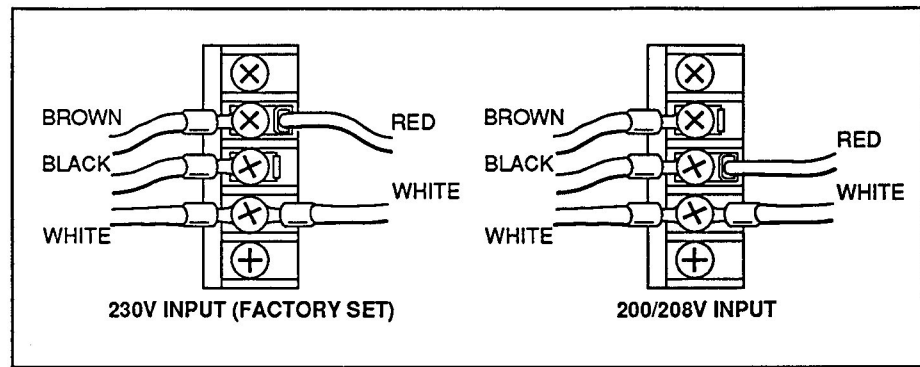

Figure 3-12. Internal Input Power Supply Connections.
2. The controller is shipped to accept 230 volts A-C. If input voltage is 208 volts, reconnect the power supply terminals located inside the controller as follows (Figure 3-12):